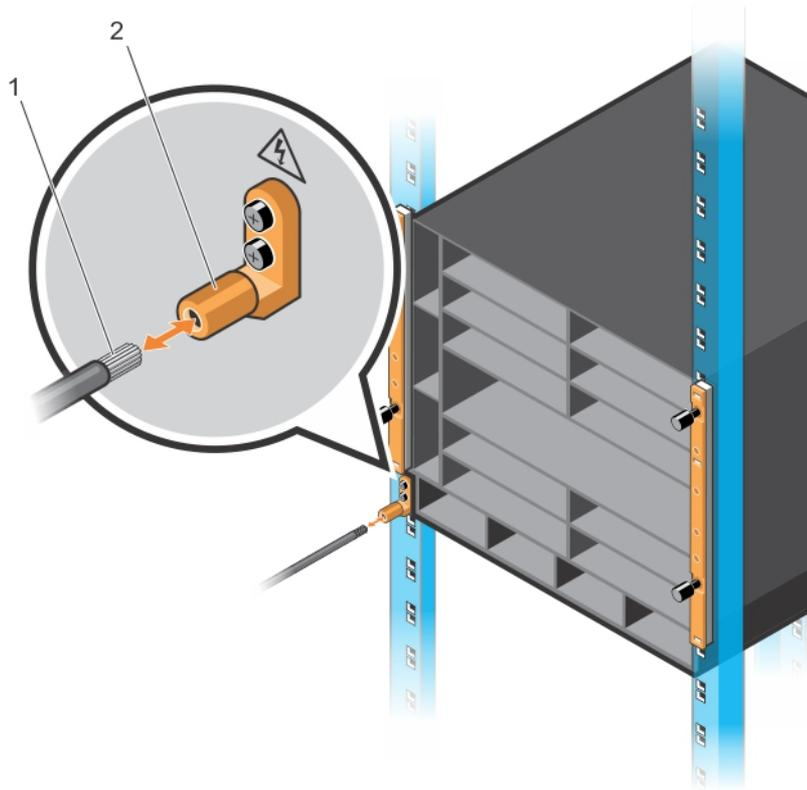

Figure 18. Grounding the Chassis
- 2 Attach a grounding cable to the chassis lug by inserting a 6-gauge cable (item 1 in Figure 18). Using a hand-crimping tool (Tyco Electronics 58433-3 or equivalent), crimp the lug (item 2 in Figure 18) so that the cable is held securely.